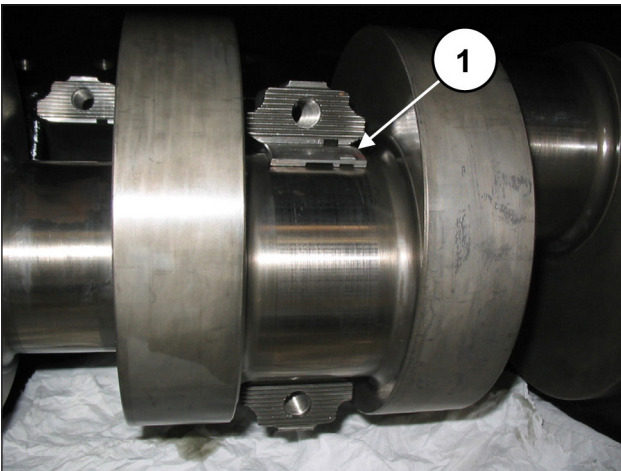

Fig. 56
Insert the upper half-bearings between the con-rods and the shaft (pos. ①, Fig. 56).